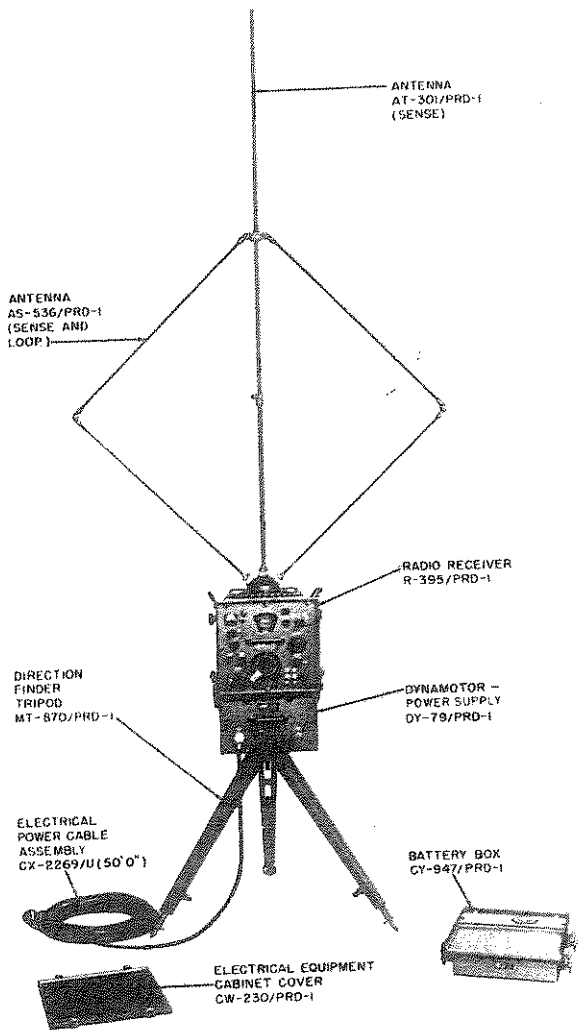

Figure 2. Direction Finder Set AN/PRD-1, major components.
b. The major parts of the equipment (fig. 2) are Antenna AS-536/PRD-1, Antenna AT-301/PRD-1, Radio Receiver R-395/PRD-1, Dynamotor-Power Supply DY-79/PRD-1, Battery Box CY-947/PRD-1, Direction Finder Tripod